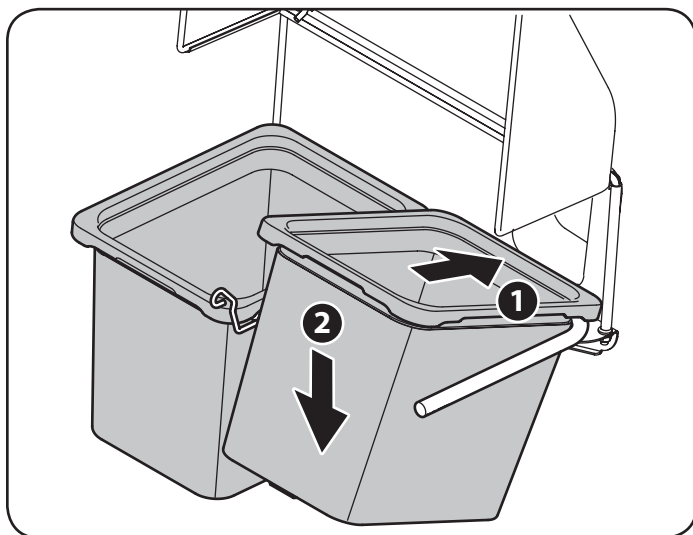

Figure 7
6. Install the bags onto the mounting frame as shown in Figure 7. Simply place the leading edge of the bag onto the front frame rail, then rock the bag backwards and down into place. Repeat for the second bag.